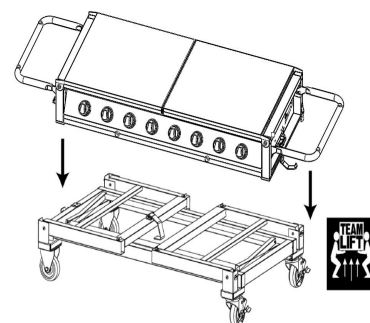

Fig.3
5. With an assistant, lift and position Grill Bowl onto the folded Cart. See Fig.3.